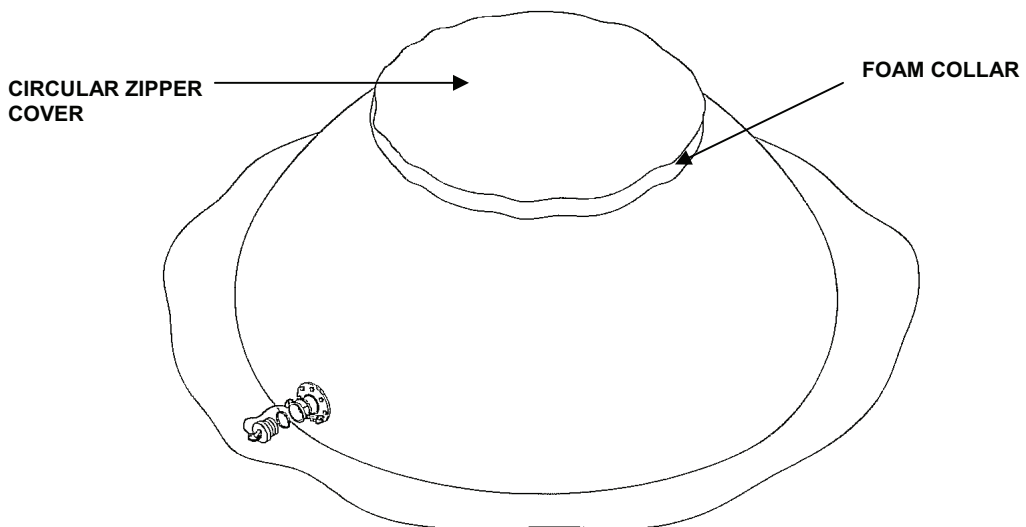

Figure 7. Settling Tank.
16. Make sure the settling tank cover is open. It has a foam collar and a circular zipper cover. See Figure 7.